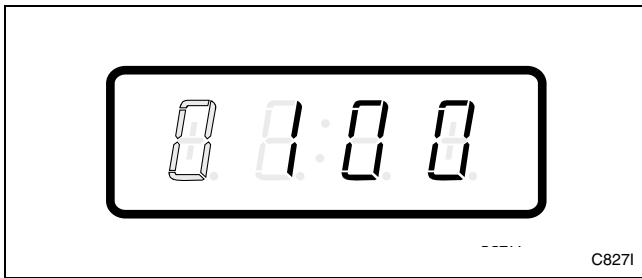

Figure 113
6. Press the START (enter) keypad to enter the fifth digit and display remaining four digits. The active digit will flash one second on and one second off. Refer to *Figure 113*.